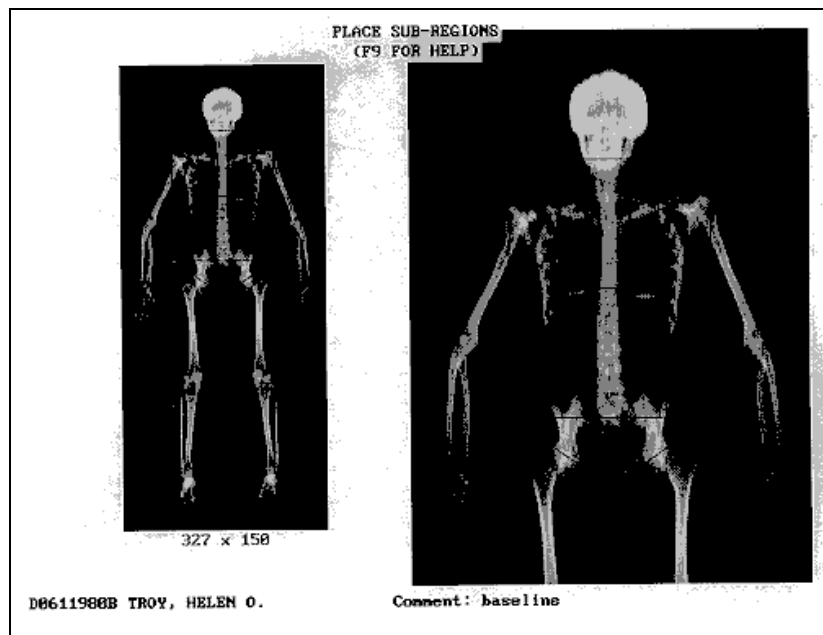

Figure 3-8. Total body scan image
- After the scan is completed, a screen similar to Figure 3-8 appears for a few seconds.